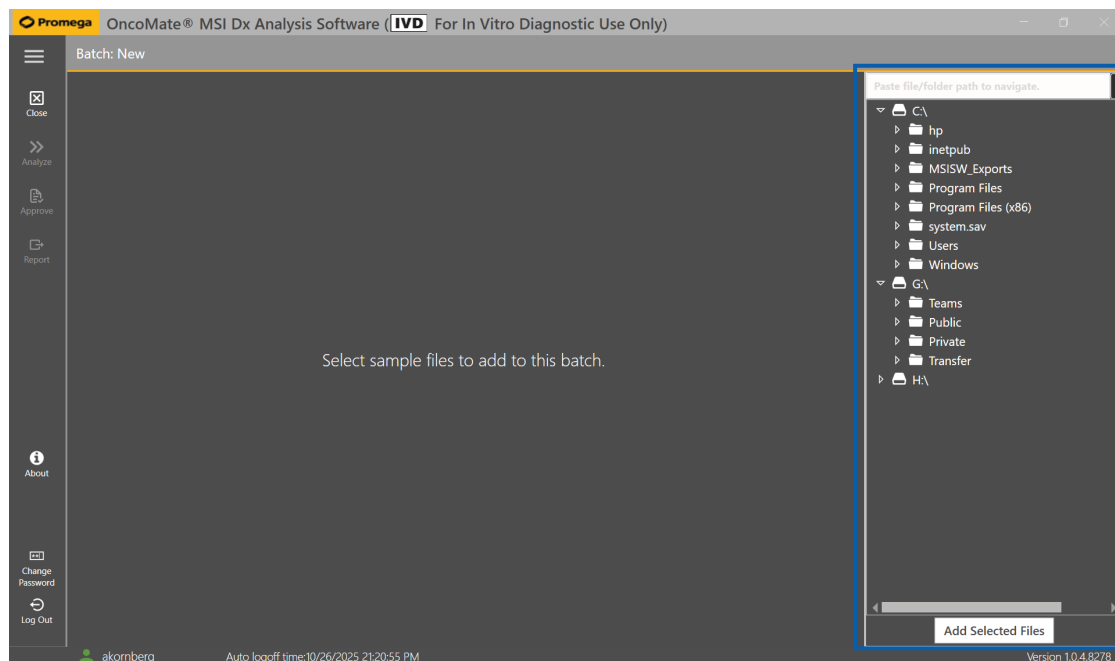

Figure 16. Adding samples to a new batch. The file tree is outlined in blue.
2. In the file tree window that appears (Figure 16, blue box), navigate to the desired sample data folder or individual FSA files one of two ways:
2. Select the **Add File(s)** button near the bottom center of the screen. A file tree will appear in the right margin (Figure 16).